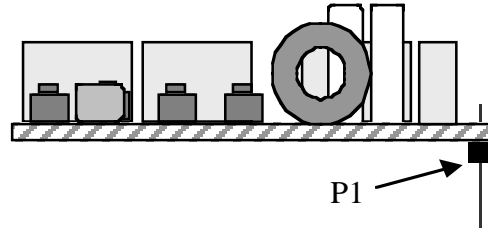

Figure 7
- Install an 8-pin male connector at P1, *on the bottom side of the board*, as shown in Figure 7 (below). **Do not solder yet.** Figure 7 shows P1 as viewed from the left end of the Filter board. The plastic part of the connector must be on the bottom side of the board, with the long end of the pins pointed down. The short pins are inserted into the board.
- Check one more time to be sure that P1 is installed on the *bottom* side as shown in Figure 7. If P1 is in the right position, solder the remaining pins. Do not trim the leads.